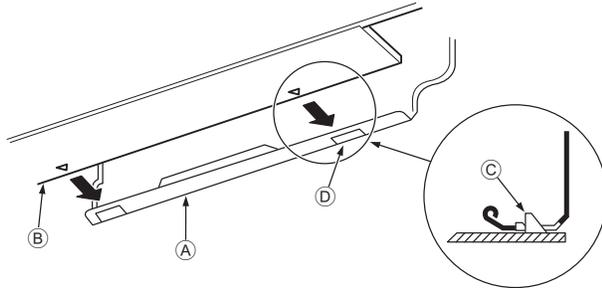

Fig. 3-15
3. While inserting the refrigerant piping and drain hose into the wall penetration hole (penetration sleeve), hang the top of the indoor unit to the mount board ①.
5. Fasten by pushing the bottom part of the indoor unit onto the mount board ①. (Fig. 3-15)
- \* Check that the knobs on the bottom of the indoor unit are securely hooked into the mount board ①.
- ① Mount board
② Indoor unit
③ Hook
④ square hole